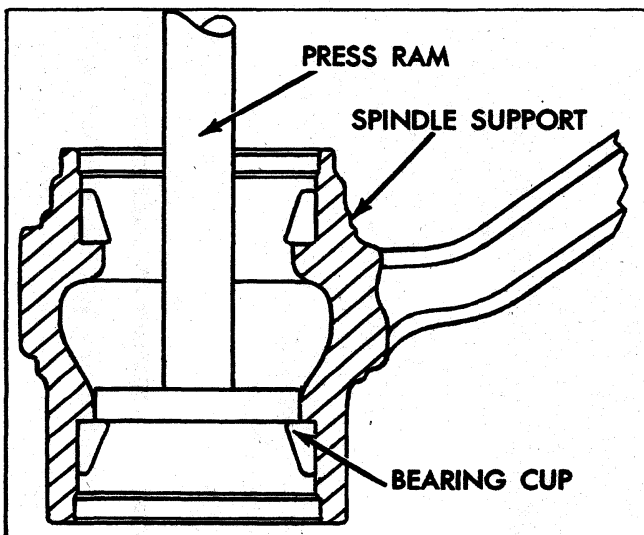

Fig. 47—Bearing Cup Removal (Corvette)
1. Out of 3/8" square steel bar stock, make bearing removers and use as shown in Figure 47.